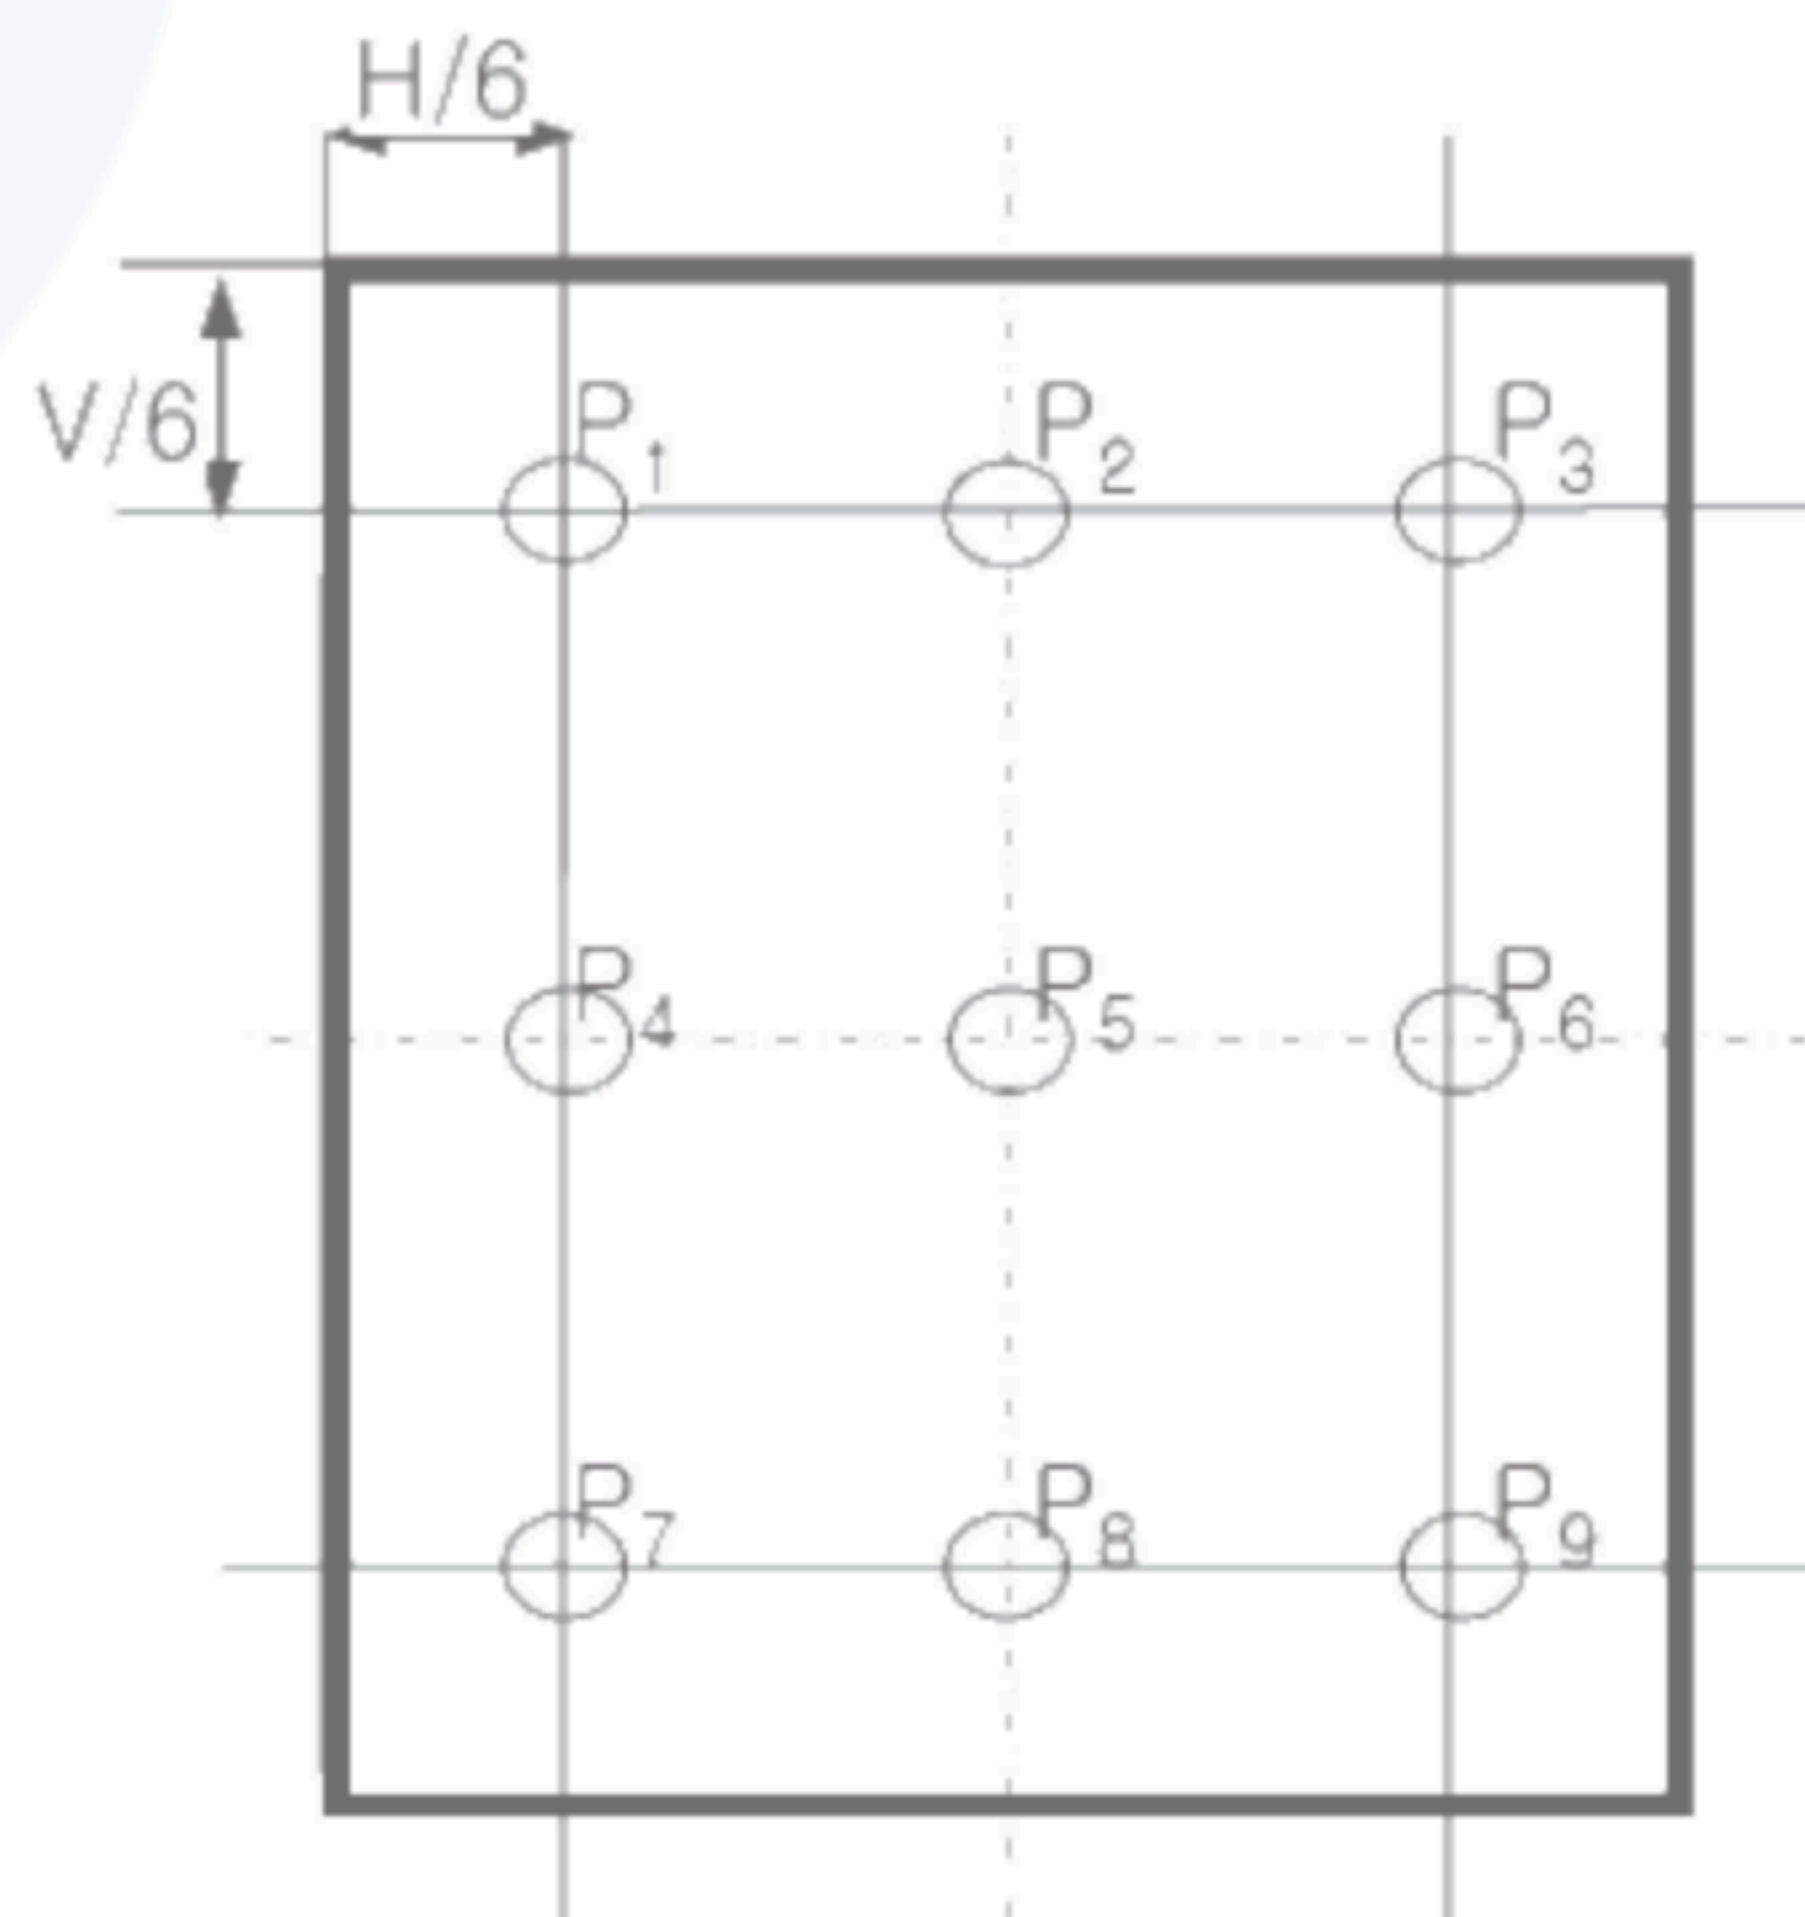

Figure 6. Uniformity Measurement Locations
3. Uniformity measurement shall be taken at the locations shown in FIG. 6, for a total of the